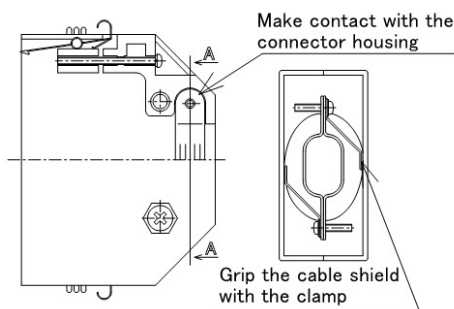
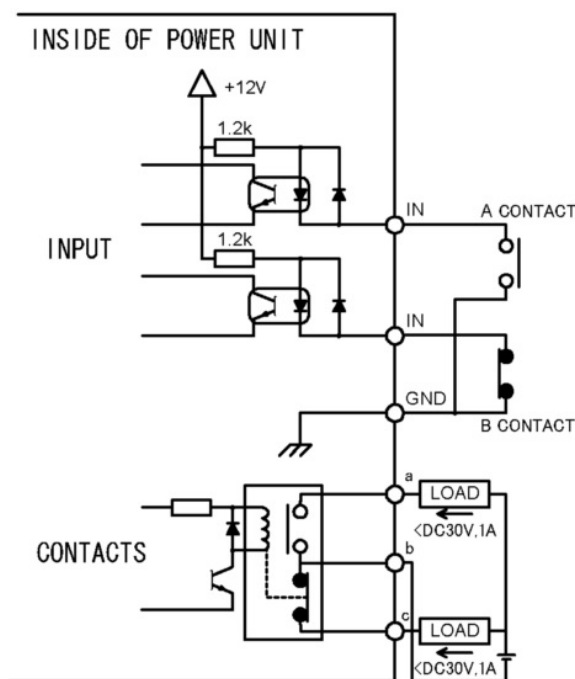
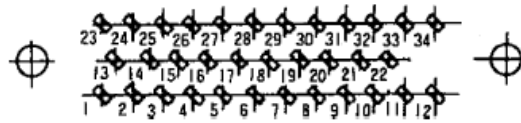

Fig. 6-8 Remote-control Connector
Fig. 6-9 Remote-control Circuit
Fig. 6-10 Arrangement of Remote-control Connector Pins
The controller is provided with remote-control connector for connection with remote operation, alarm signals, etc. Use this connector and a cable with shield as necessary. The shield of the cable should be connect to case of Remote-connector (Refer to Fig. 6-8, Fig. 6-9, Fig. 6-10 and Table 6-2, Table 6-3). For remote-controlled operation, push the REMOTE switch (Fig. 2-1 (15)) to REMOTE lamp ON.
(Note 3) The pin numbers are shown in Fig. 6-10 "Arrangement of Remote-control Connector Pins".